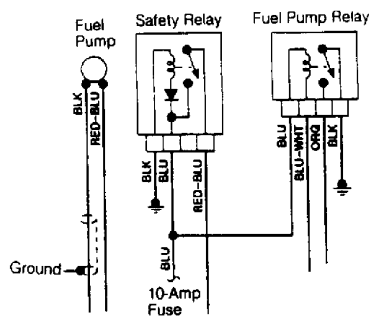

Fig. 1: Testing Typical Fuel Pump & Safety Relay
1) Turn ignition on. Ensure battery voltage exists at Blue wires of safety relay and fuel pump relay. See Fig. 1. If battery voltage is not present at both Blue wires, check for a blown 10-amp power fuse or an open circuit between fuse and relays.
1) Turn ignition on. Using a voltmeter, check for battery voltage at Blue wire of safety relay. See Fig. 1. If voltage is not present, check for blown 10-amp fuse or open circuit between fuse and relay.